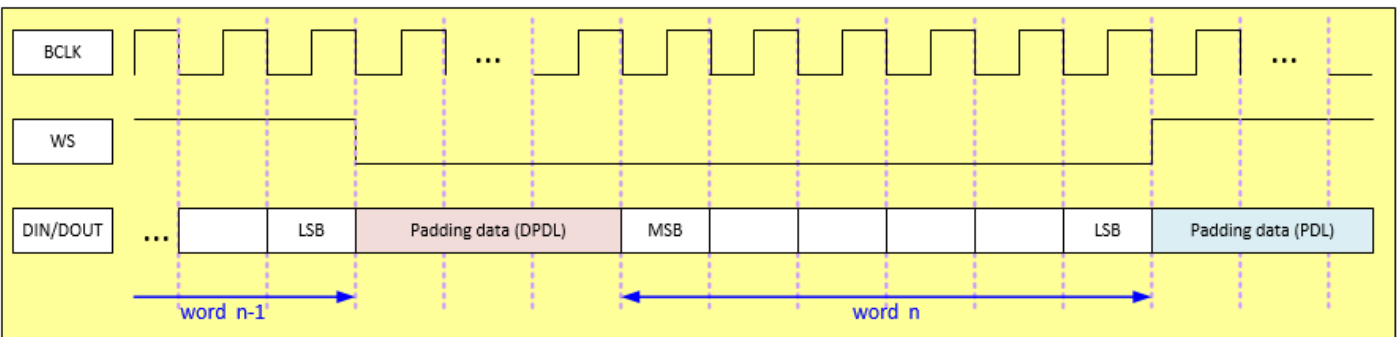
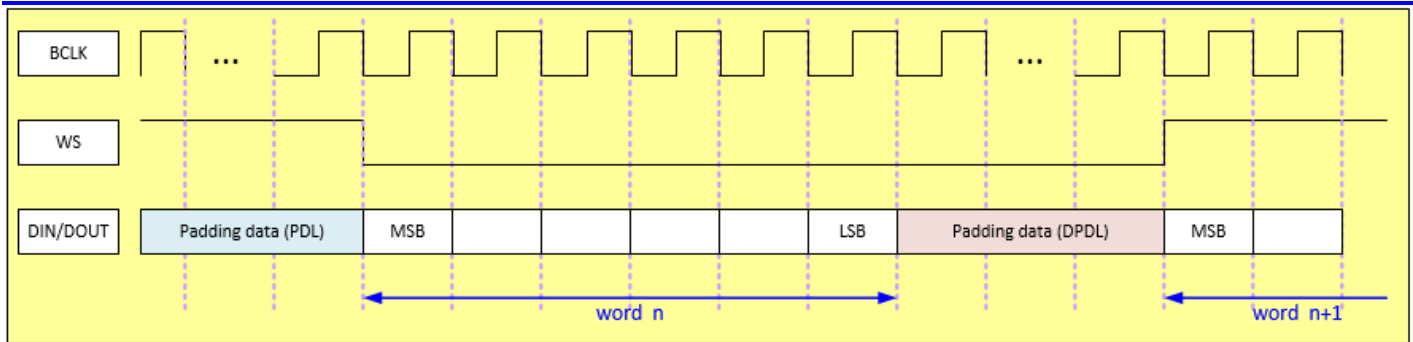

Figure 13-10. Possible Variation with DPDL of I2S Frame Format (Right-justified)
Figure 13-11. Possible Variation with DPDL of I2S Frame Format (Left-justified)
Figure 13-10 and Figure 13-11 show the different padding data length on the right/left channel. The I2S frame format supports the different padding data length when DPDL in control register 3 is set to '1'.
- In Figure 13-10, the width of WS. is larger than the serial data bits. The valid data bit is right-justified to the whole frame. The extra padding data bits are inserted before the valid data bits. The number of the padding data bits is specified in DPDL in control register 3 when WS. equals to zero. The number of the padding data bits is specified in PDL in control register 1 when WS. equals to one.
- In Figure 13-11, the width of WS. is larger than the serial data bits. The valid data bit is left-justified to the whole frame. The extra padding data bits are inserted after the valid data bits. The number of the padding data bits is specified in DPDL in control register 3 when WS. equals to zero. The number of the padding data bits is specified in PDL in control register 1 when WS. equals to one.